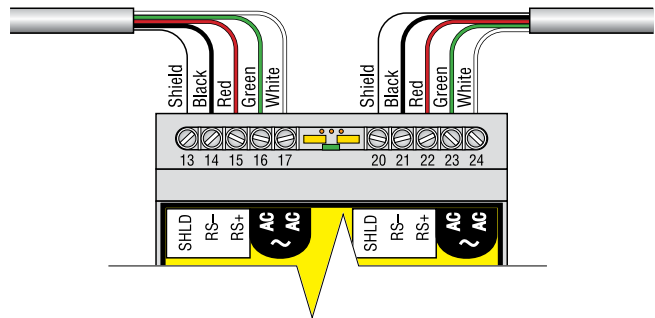

Figure 4. Power and Telemetry Connections
- Strip the primary wires to expose approximately 6 mm (1/4 in) of conductor and make the following connections: (see Figure 4)